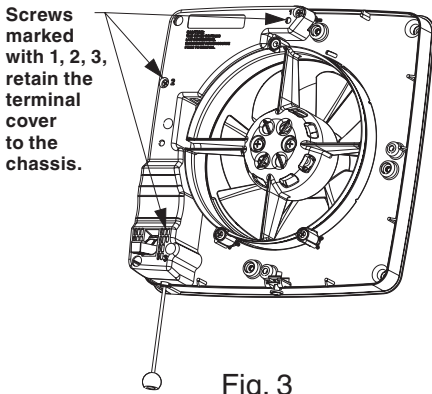

Fig. 3
4. Remove the terminal cover by undoing screws marked 1, 2 & 3 (Fig. 3).
7. Fit terminal cover and fasten with screws marked 1, 2 & 3 (Fig. 3).